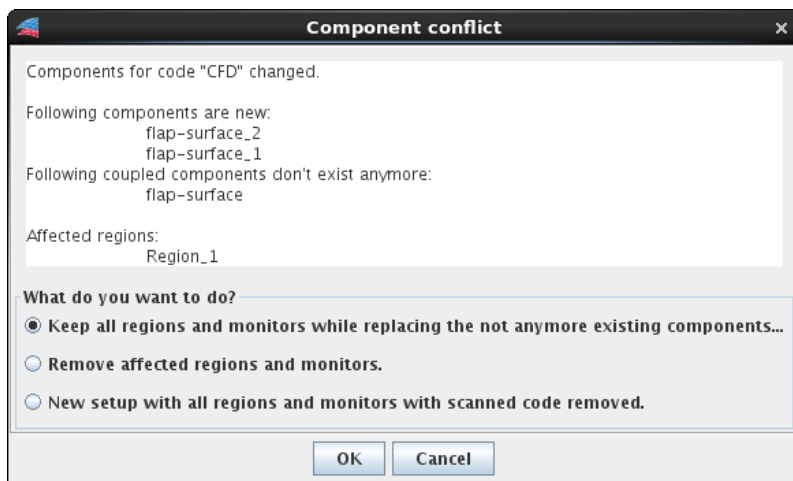

Figure 7: Component conflict after changing the model
- If at least one old coupled component doesn't exist anymore a component conflict dialog (see Figure 7) appears where the user has the choice among